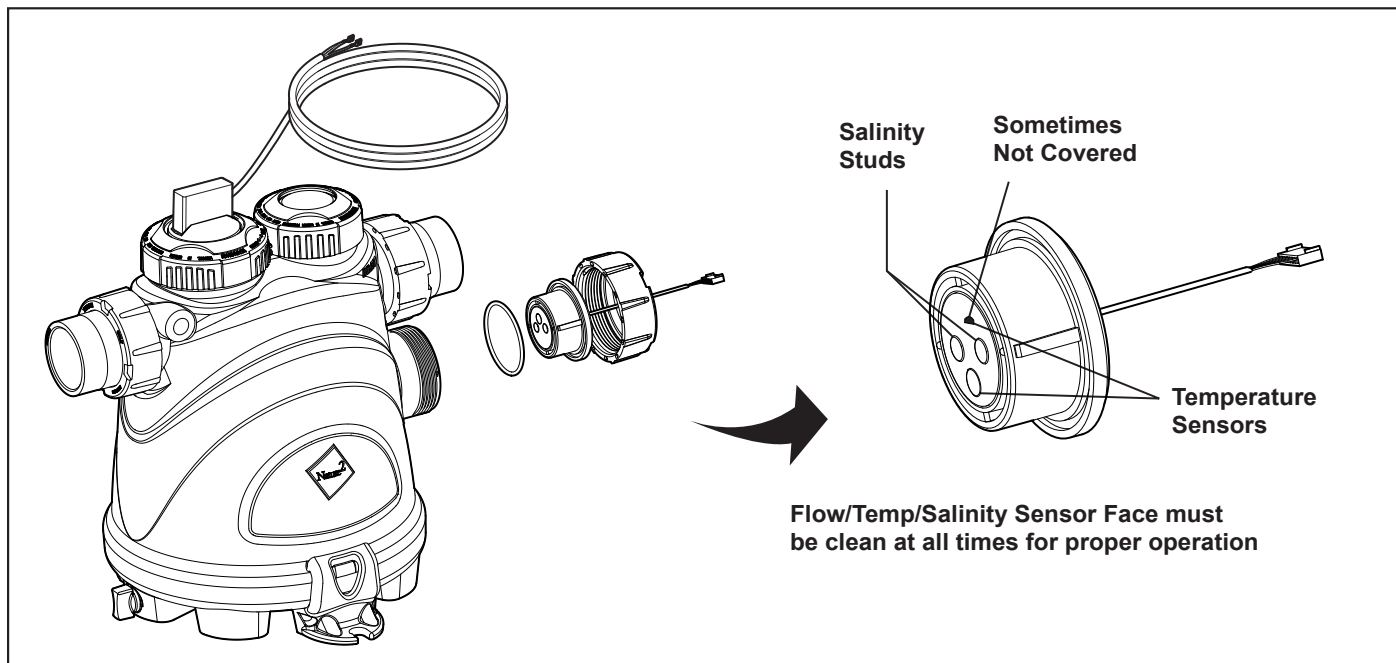

Figure 10. Vessel Installation and Flow/Temperature/Salinity Sensor
- Mount as shown in Figure 10. This will result in the most reliable operation.
2. Install the flow/temp/salinity sensor into the vessel (see Figure 10).